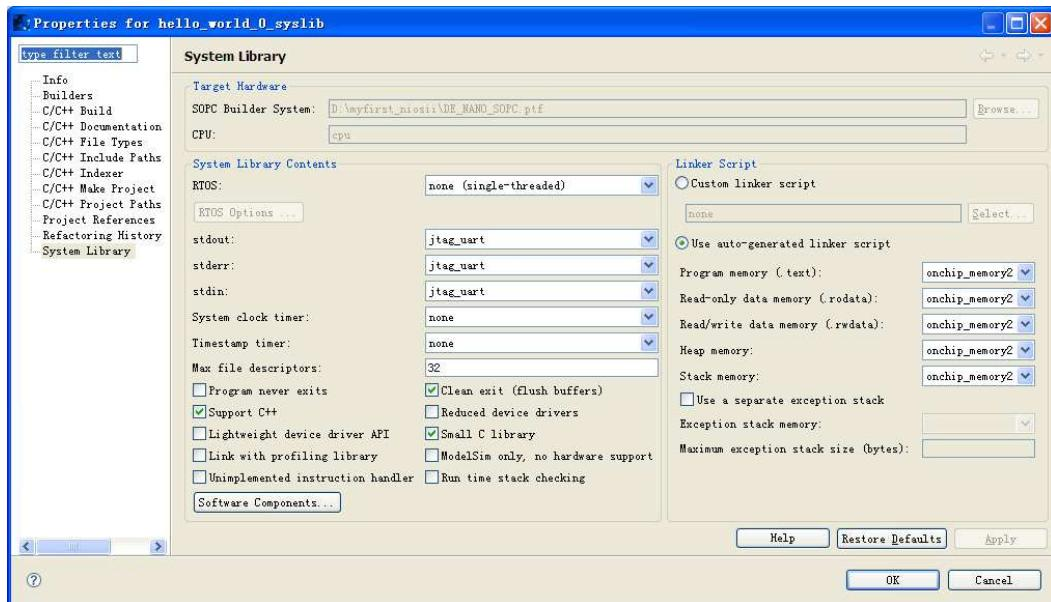

Figure 7-61 Configuring System Library Properties
3. In the **Linker Script** box, observe which memory has been assigned for **Program memory(.text)**, **Read-only data memory(.rodata)**, **Read/write data memory(.rwdta)**, **Heap memory**, and **Stack memory**, see Figure 7-61. These settings determine which memory is used to store the compiled executable program. You can also specify which interface you want to use for stdio , stdin, and stderr. You can also add and configure an RTOS for your application and configure build options to support C++, reduced device drivers, etc.
4. Select **onchip_memory2** for all the memory options in the **Linker Script** box, as shown in Figure 7-61.